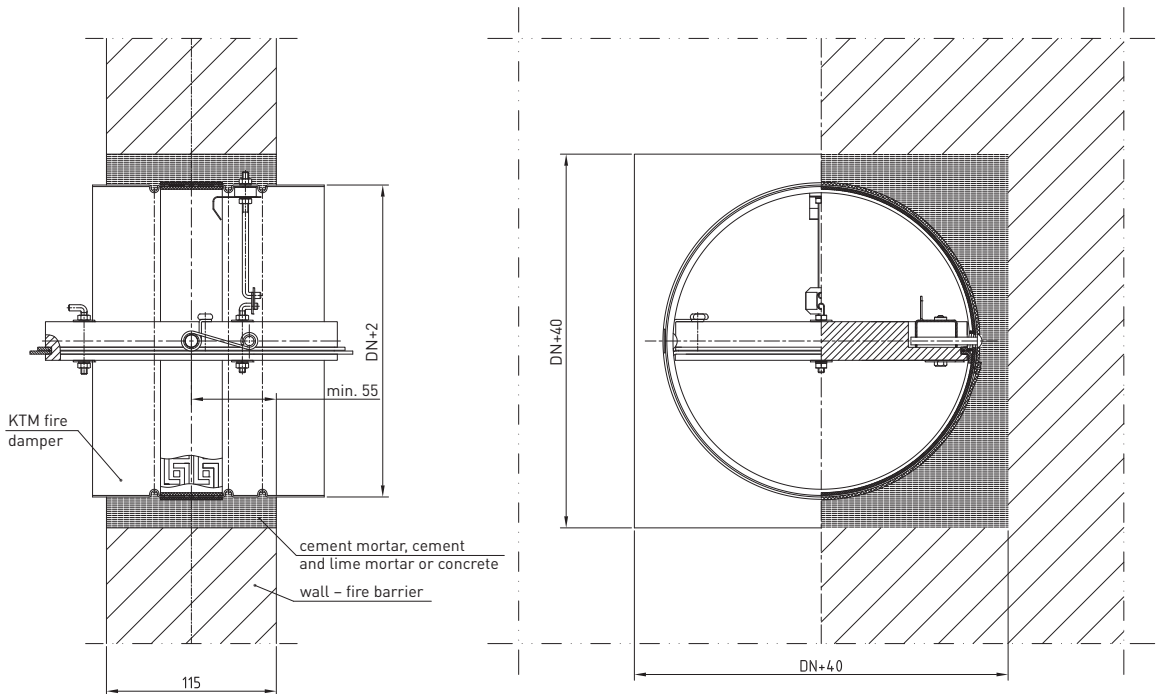

Figure 5. Installation of KTM fire damper (female coupling) in rigid wall barrier – variant I.
#### Variant I (figure 5. i 6.)
2. Put the fire damper into the installation opening, secure with hangers and keep the distance of not least than 55 mm of the flap axis from both wall surfaces (see fig. 5 and 6).